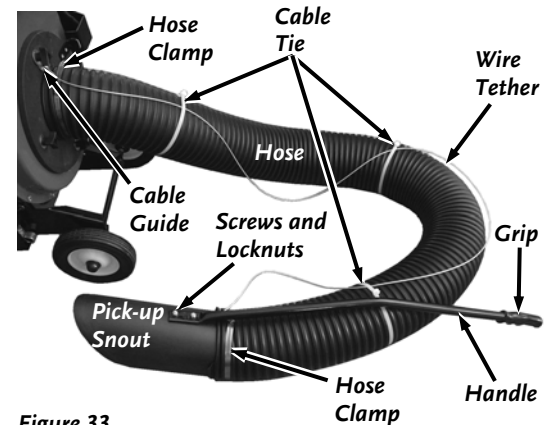

Figure 33
- Secure one end of the Hose onto the Vacuum Adapter with a Hose Clamp using a 5/16" Wrench (**Figure 33**).